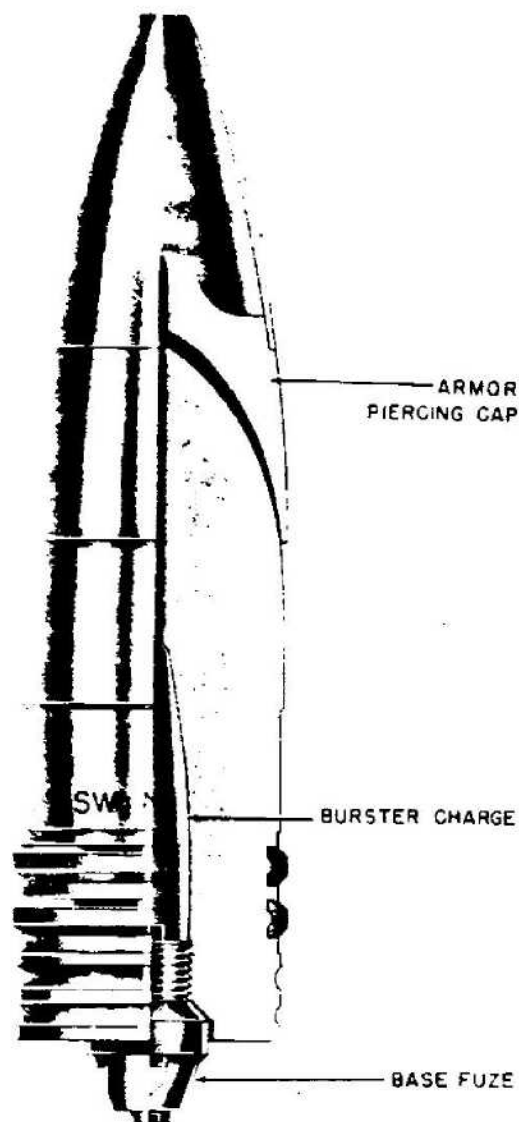

Figure 438—A. P. Projectile for 88-mm Gun, 8.8-cm Pzgr. 39
**GERMAN NOMENCLATURE:** 8.8-cm Pzgr. 39. (See fig. 438.)